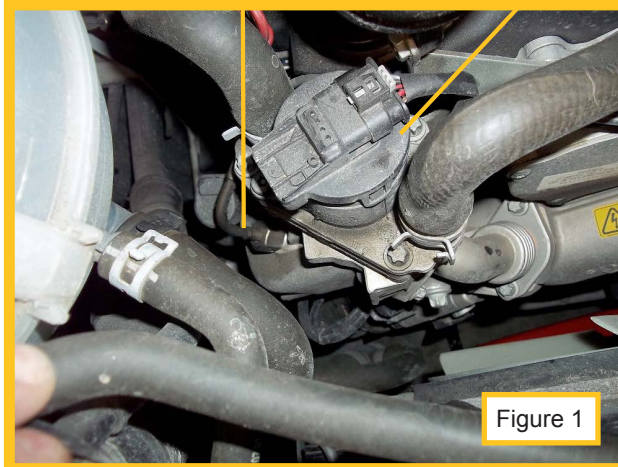

Figure 1
4. Remove EGR temperature sensor (see figure 1). Do not disconnect wire connector.